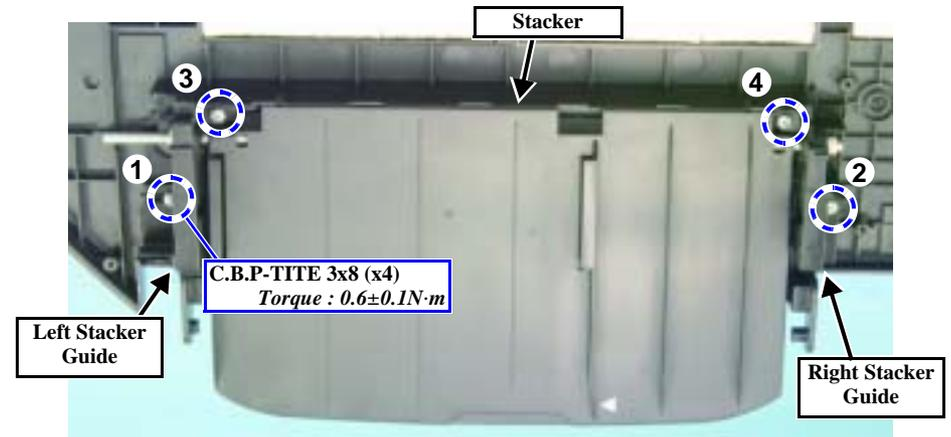

Figure 4-36. Removing the Stacker Assy
5. Remove the screws (x4) securing the Stacker Assy. (Fig. 4-36)
- Tighten the screws in the specified order. (Fig. 4-36)